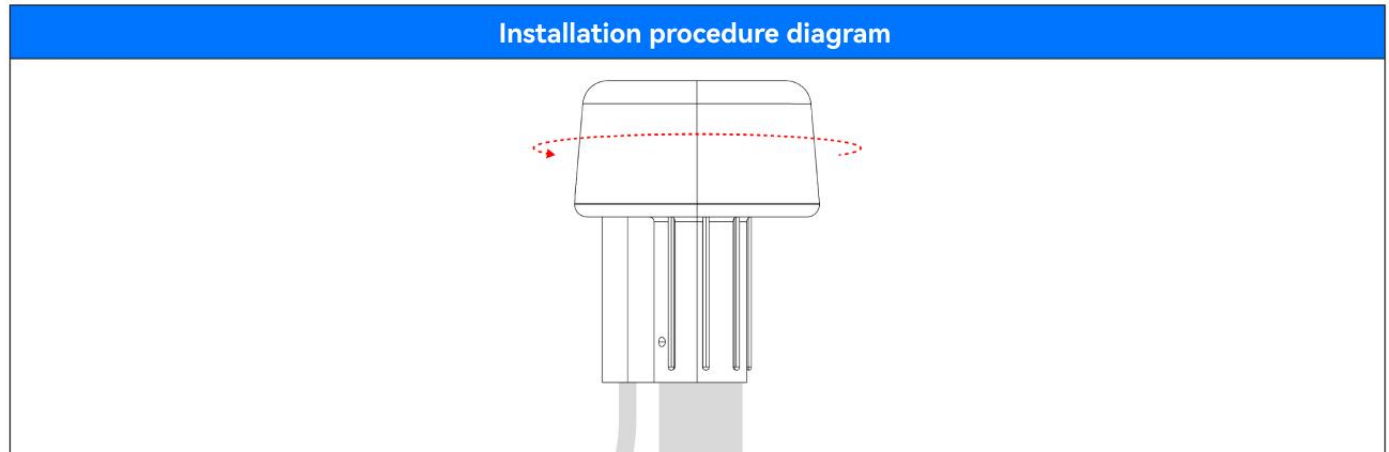

Figure 3.1
1. Rotate the main body to the 1m support rod as shown in Figure 3.1 (it is strictly prohibited to use ferromagnetic materials, non-metallic materials must be used, such as bamboo pole, wooden pole, glass fiber reinforced plastic, etc.), and fasten it with tight screws.